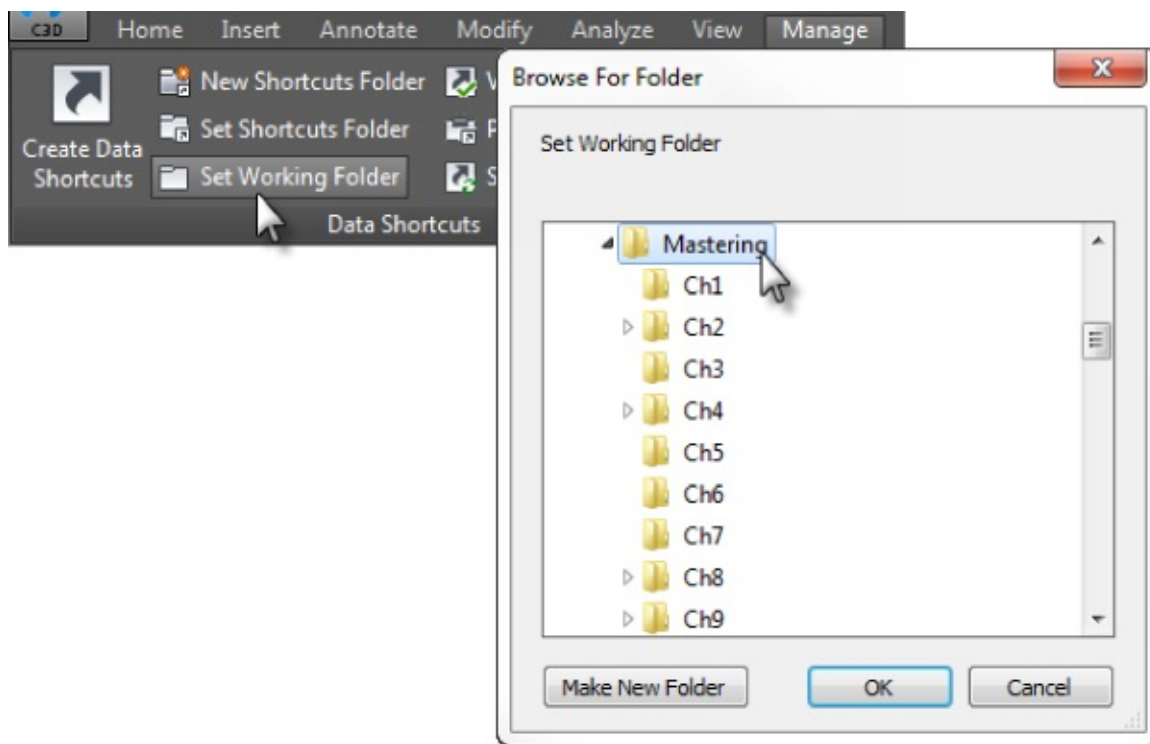

Figure 16.2 Creating a new working folder
2. From the Manage tab > Data Shortcuts panel, click Set Working Folder to display the Browse For Folder dialog, as shown in Figure 16.2.
4. With the Mastering folder highlighted (as shown in Figure 16.2), click OK.